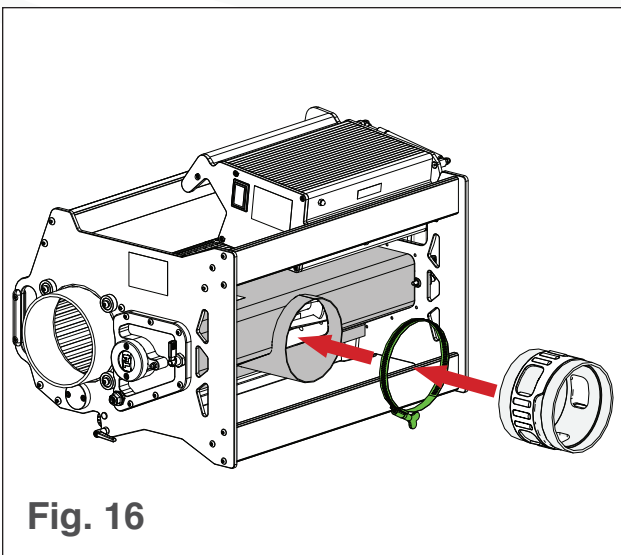

Fig. 16
3. Place a hose clamp over the top of the vacuum attachment coupling (see Fig. 16).
4. Slide the coupling over the vacuum shroud (see Fig. 16).